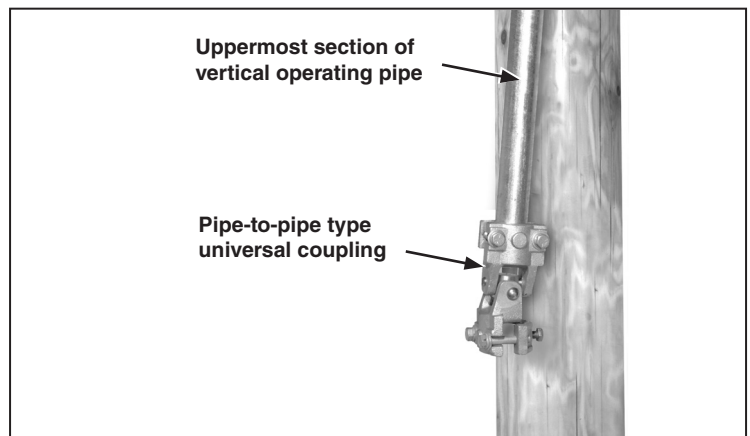

Figure 19. Attach the pipe-to-pipe type universal coupling to the lower end of the vertical operating pipe.
STEP 14. Attach a pipe-to-pipe type universal coupling to the lower end of the uppermost section of vertical operating pipe. See Figure 19. Back the piercing set screw out of the body of the pipe coupling before tightening the coupling clamp bolts.
STEP 18. At the universal coupling immediately above the thrust bearing—torque the clamp bolts to final tightness. Tighten the piercing set screw, piercing the pipe, and continue turning until a firm resistance is felt. ① See Figure 19 on page 15.
① If the shipment includes an S&C Type AS-1A Switch Operator, as signified by the addition of the standard minor modification suffix “-S8” or “-S9” to the erection drawing number, refer instead to S&C Instruction Sheet 769-500, “S&C Switch Operators—Type AS-1A, Instructions for Installation.”